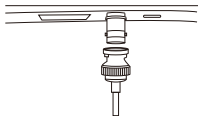

Figure 7
2. One end of pH sensor with wiring terminal should be inserted under the instrument according to the direction noted. (Figure 7)